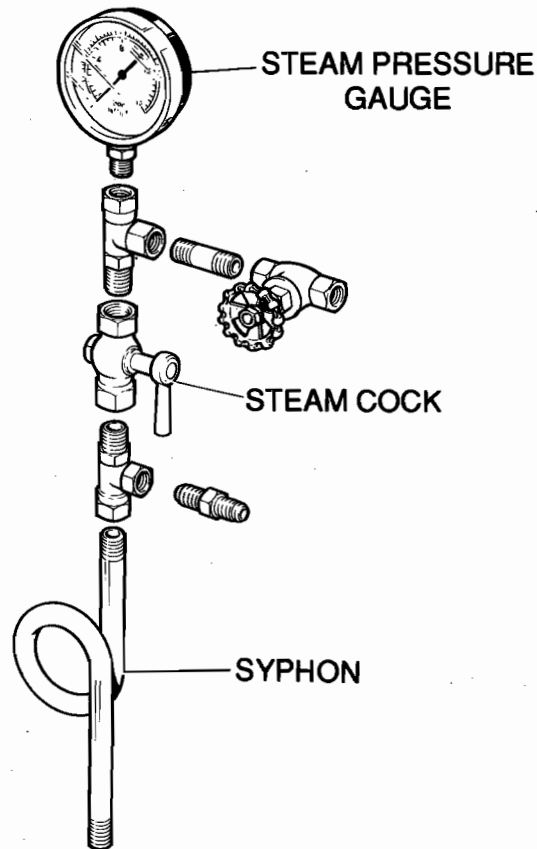

FIG 5 STEAM PRESSURE GAUGE
2.12 Steam Pressure Gauge (Fig. 5)